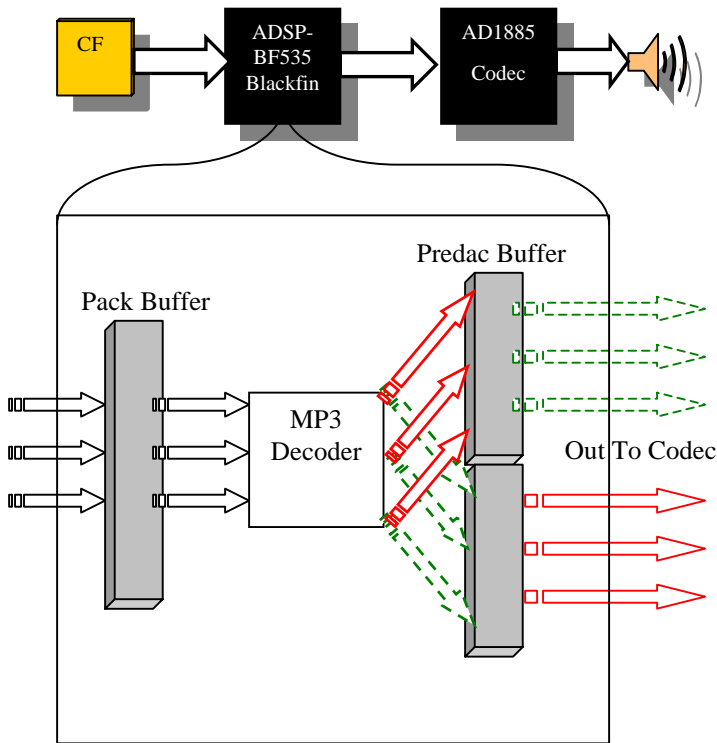

Figure 5. MP3 Playback System
- 6) Read MP3 Data from CF, Decode and Playback (see Figure 5)
48KHz. Figure 5 shows an overview of the MP3 Decode and Playback system.